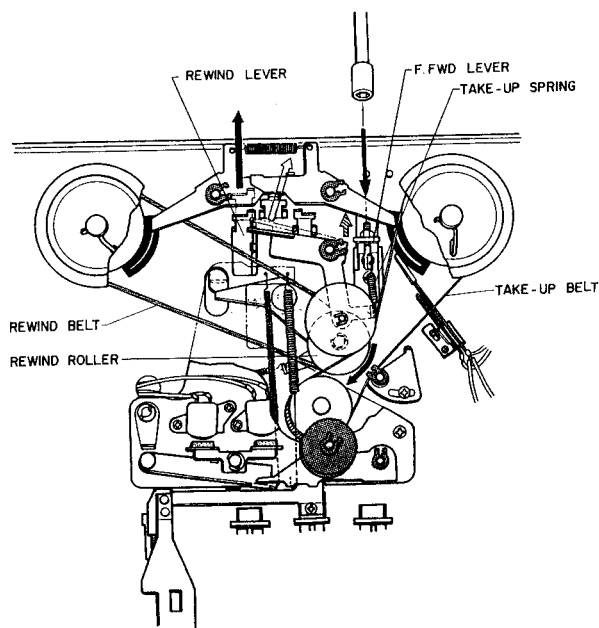

Fig. 2-2
- (1) After removing sub-chassis and lower shaft bearing plate, remove takeup belt 135 (Fig. 2-2) and the flywheel will be readily removed.
- (3) Remove takeup spring 97 (Fig. 2-2).
- (4) Remove 163 and 164, the two screws connecting main lever to recording switch lever.
- (5) Pull the lever toward yourself and it will be removed.
Depress RWD button until it is locked, and rewinding lever will move in the direction indicated by the mark (⇒) in Fig. 2-2 while rewinding roller moves toward flywheel as indicated by the mark (↘) until it is made pressed onto the notched edge of flywheel by spring. At the same time, take-up spring is made released in the direction (⇒) and rewinding finally takes place.